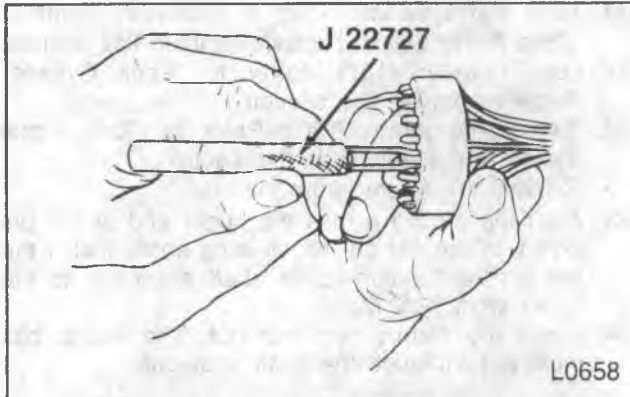

Figure 28—Removing Connector Wire
- Mark the location of each wire in the half-moon connector and then remove each individual wire from the connector. Use J 22727 (figure 28). Insert the tool into the lower end of the connector and push in until the tool bottoms on the connector. Remove the tool and then pull the wire from the connector.